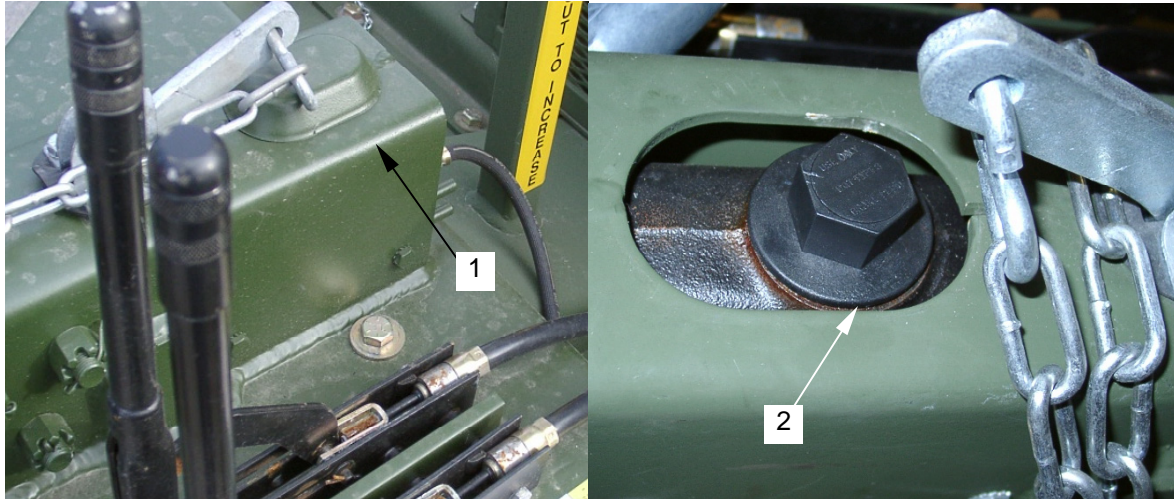

Figure 6. Brake Fluid Filling
- c. Remove cylinder cover (**figure 6, item 1**).
- d. Loosen and remove master cylinder fill cap (**figure 6, item 2**).